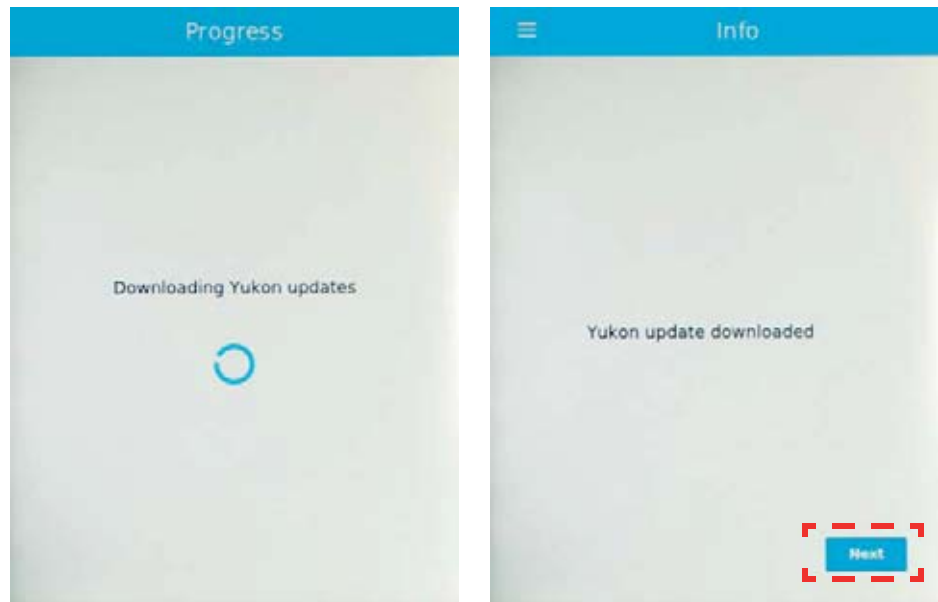

Figure 4-7 BAT - Pre-Initialization: Download Yukon Updates
- Step 9** Yukon updates will be downloaded. After successful download, press <Next>, see **Figure 4-7**.